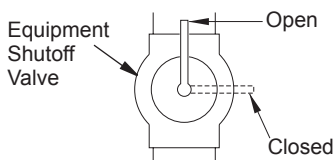

Figure 24 - Equipment Shutoff Valve
1. Close equipment shutoff valve (see Figure 24).
1. Open equipment shutoff valve (see Figure 24).
3. Close equipment shutoff valve (see Figure 24, page 18).